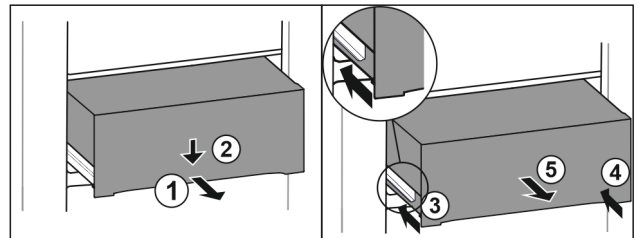

Fig. 85
- ▶ Pull out drawer half-way. Fig. 85 (1)
- ▶ Push the drawer down at the front. Fig. 85 (2)
- ▶ Push the left rail in by about 2 cm. Fig. 85 (3)
- ▶ Push the right rail in by about 2 cm. Fig. 85 (4)
- ▶ Remove drawer to the front. Fig. 85 (5)